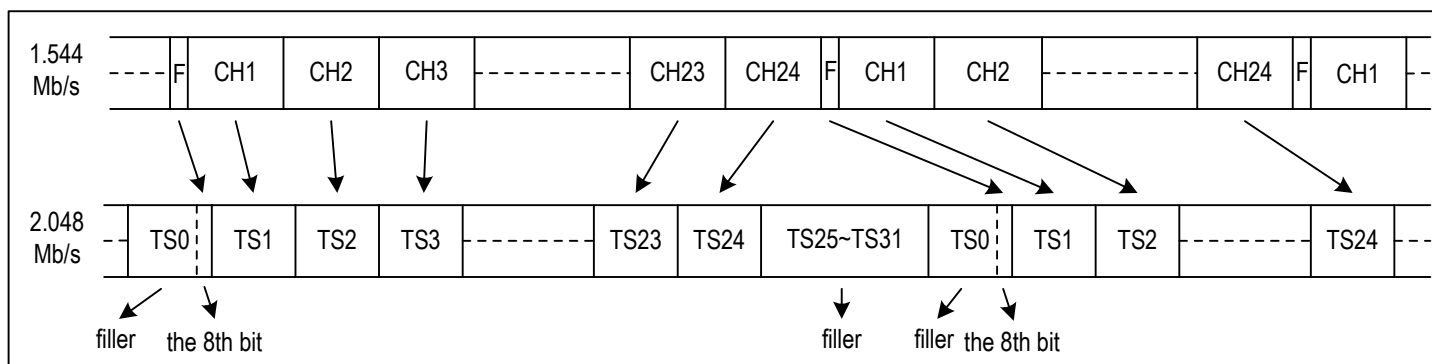

Figure 19. T1/J1 To E1 Format Mapping - Continuous Channels Mode
3. T1/J1 Mode E1 Rate per Continuous CHs (refer to Figure 19): Channel 1 to Channel 24 of Frame N from the device are converted into TS1 to TS24 of Frame N on the system side. The F-bit of Frame N from the device is converted into the 8th bit of Frame N on the system side. The first 7 bits and TS25 to TS31 on the system side are all filled with '0's and they are meaningless.